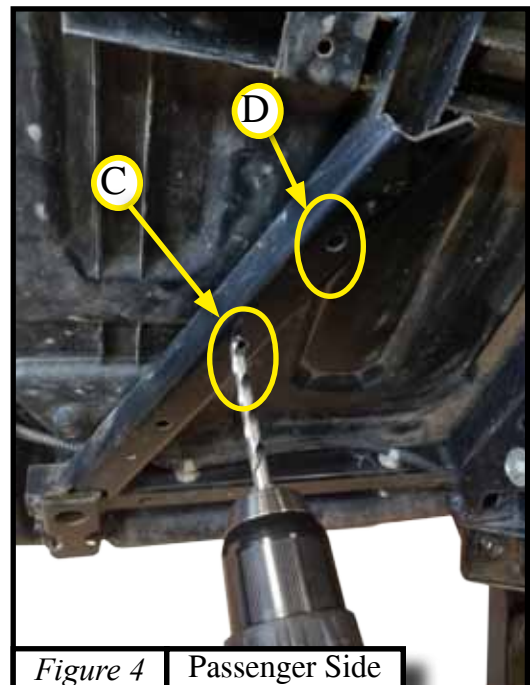

Figure 4 Passenger Side
- Locate bed frame hole (C) on passenger side under bed. Hole (C) will already be drilled through one wall thickness of the square tube frame. Use a 21/64" drill bit to drill hole (C) through tube frame into plastic bed as shown in *Figure 4*.
- Locate bed frame rail hole (D) on passenger side under bed. Hole (D) will be a hole though square tube frame. Use a 21/64" drill bit to drill hole (D) through and into plastic bed as shown in *Figure 4*.